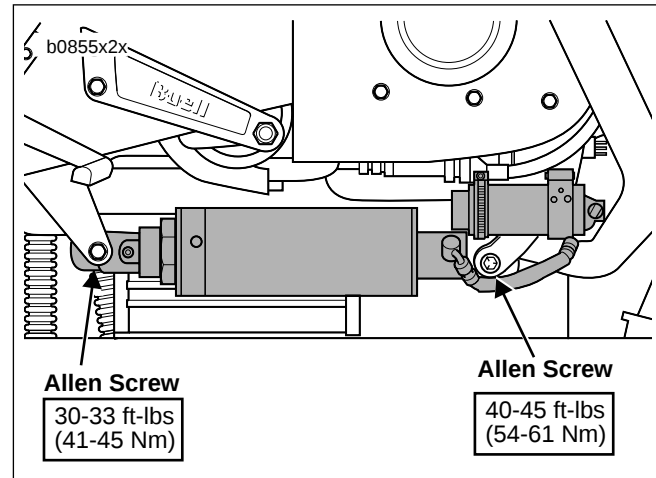

Figure 2-75. Shock Mounting Hardware
6. See Figure 2-75. Remove allen screw (metric) and locknut on front mount. Discard locknut.
2. See Figure 2-75. Loosely install rear allen screw (metric) and **new** locknut.